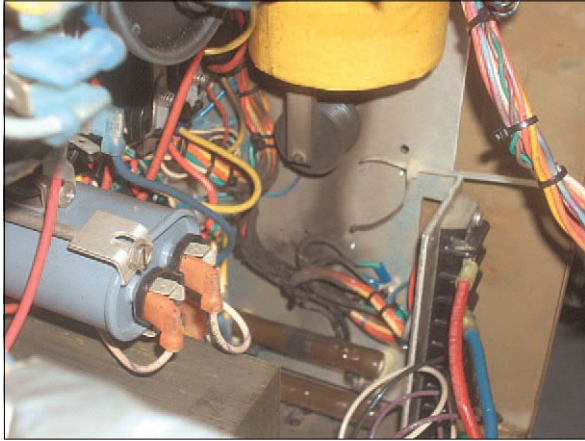

Figure 2 – Inside a tower light power controller.
Figure 2 shows the inside of a power controller (PC) for a tower light system. This is just one of the 12 PCs used for a High Intensity system of a 1,200-ft tower. We chose this tower light system because most of the electronics are located inside the building. I can do some of the repairs
The PC in Figure 2 shows some burnt residue and signs of overheating. I was puzzled since the PC cabinet is inside an air-conditioned building and that there were no signs of overheating during the last monthly inspection. It was caused by a current limiting pair of parallel resistors that became overheated. I checked the other eight power controllers and another one seem to be heading in the same direction. So I called tech support and asked what was going on. I was told that they are now replacing those resistors with ceramic types, apparently with higher wattage rating.